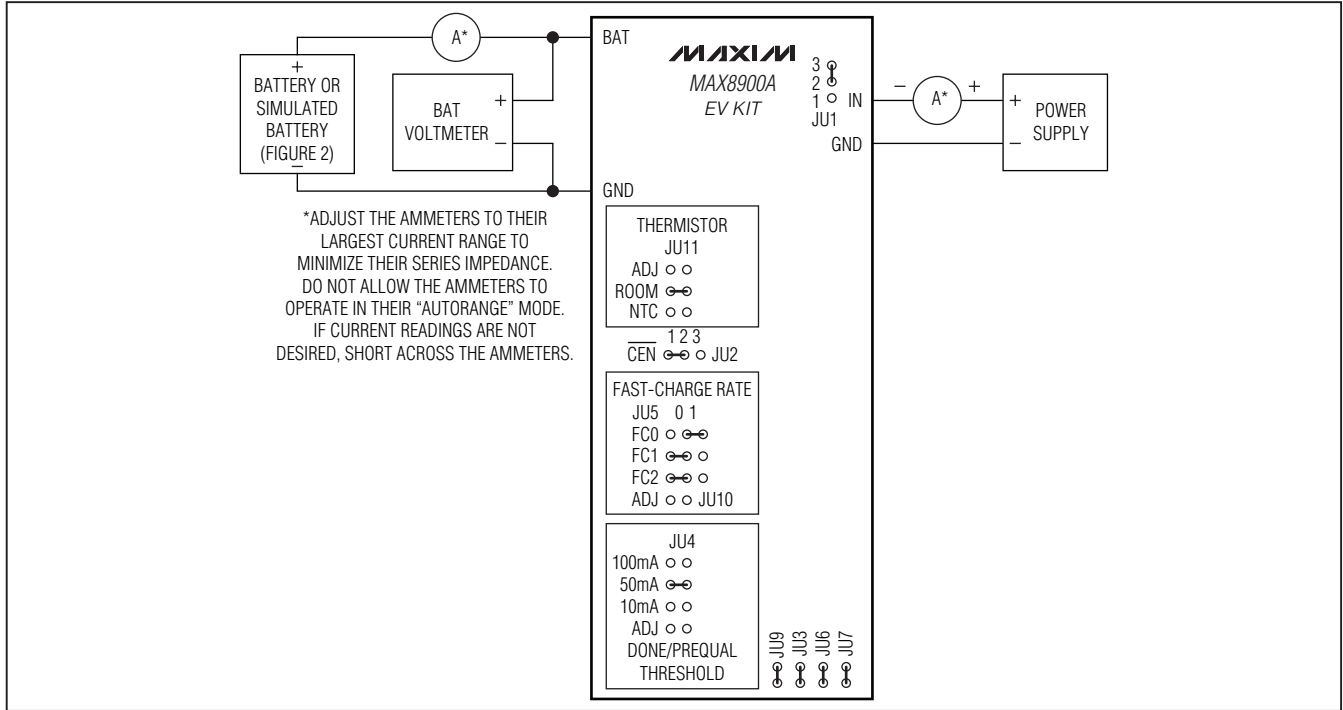

Figure 3. Connection Diagram and Default Jumper Connections
- Ensure that the EV kit has the jumper settings as shown in Figure 3 and Table 1.
- Connect the EV kit to the power supply, battery, or preloaded power supply and meters, as shown in Figure 3. Adjust the ammeters to their largest current range to minimize their series impedance. Do not allow the ammeters to operate in their “autorange” mode. If current readings are not desired, short across the ammeters.
As shown in Figure 3, MOSFET and resistor combinations adjust the total resistance from SET1 to ground. The MAX8900\_ supports values of fast-charge current (IFC) from 50mA to 1200mA. Table 2 shows the IFC values that are easily obtainable by adjusting jumpers JU5 and JU10. The relationship between RSET1 and IFC is as follows:
As shown in Figure 3, several different resistor values can be connected from DNI to ground by using jumper JU4. The resistance from DNI to ground sets the prequalification current (IPQ) and done current (IDN). The MAX8900A supports IDN and IPQ currents from 10mA to 200mA. Table 3 shows the IDN and IPQ values that are easily attained with the EV kit. The relationship between RDNI, IDN, and IPQ is as follows: